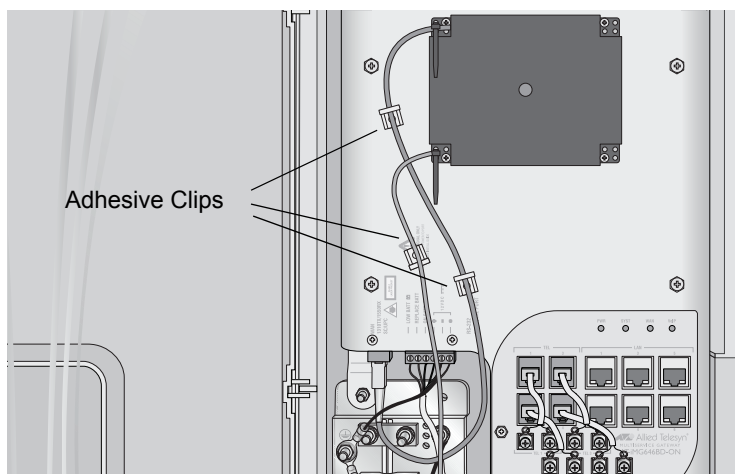

Figure 39. Securing the Fiber Cable
2. Connect the pigtail cable from the splice tray to the fiber port, using the self-adhesive wire clips to secure the fiber cable to the gateway, as shown in Figure 39.